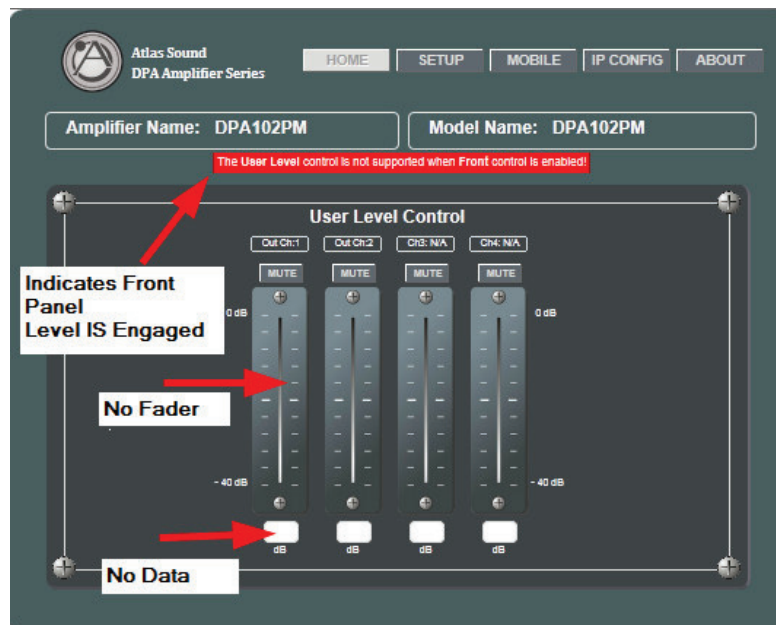

Figure 5
2. If the DPA amp GUI is open and looks like Figure 5, the front panel level controls are active. Notice the fader controls are invisible.